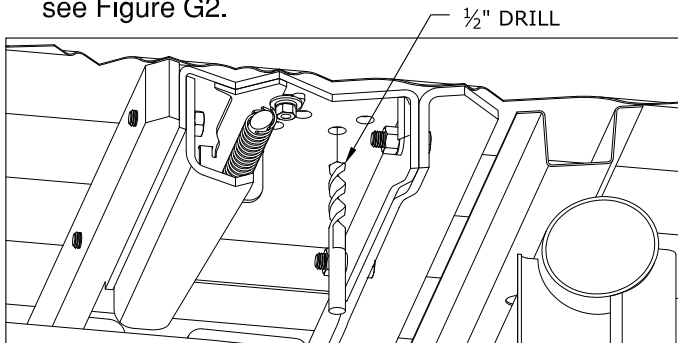

Figure G2: Cut away view of bed and center section
- 1. Drill the holes.** From under the bed use a drill and a  $\frac{1}{2}$ " drill bit to drill through the bed using the four holes that match up with a low rib in the truck as a guide. Remove any burrs created during the drilling process, see Figure G2.